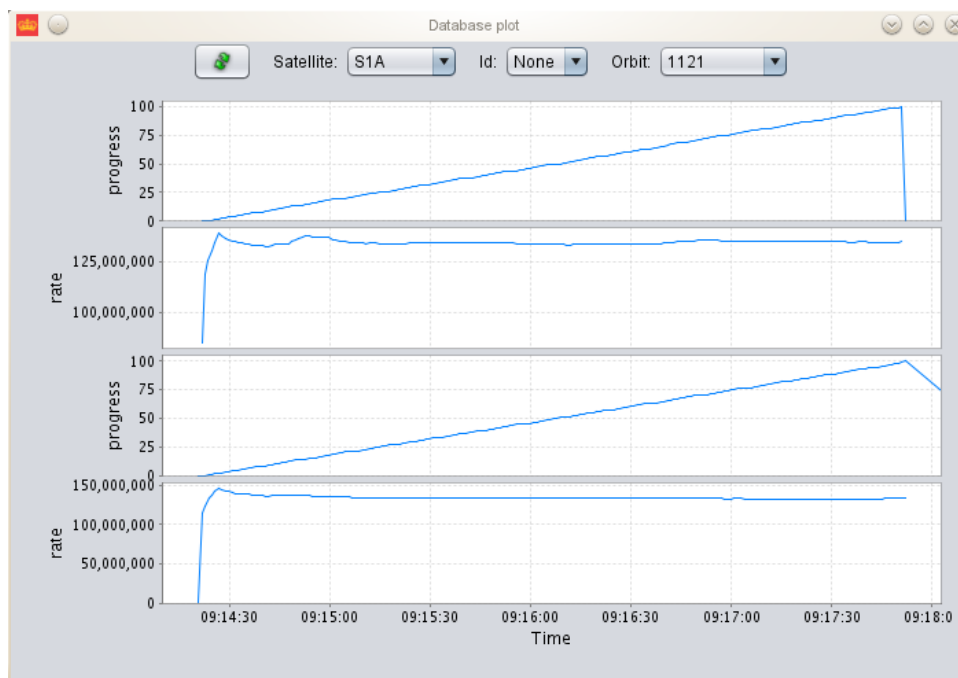

Figure 21: Final plot example
5. When satisfied with the selection, click the Finish button, and the generated plot will appear (see figure 21)
The window in figure 21 will be slightly different dependent of the source selection. If live is chosen, the plot will appear at once, and graphs will be updated as selected data arrives. If database is chosen, satellite and orbit must be selected from the top of the window.